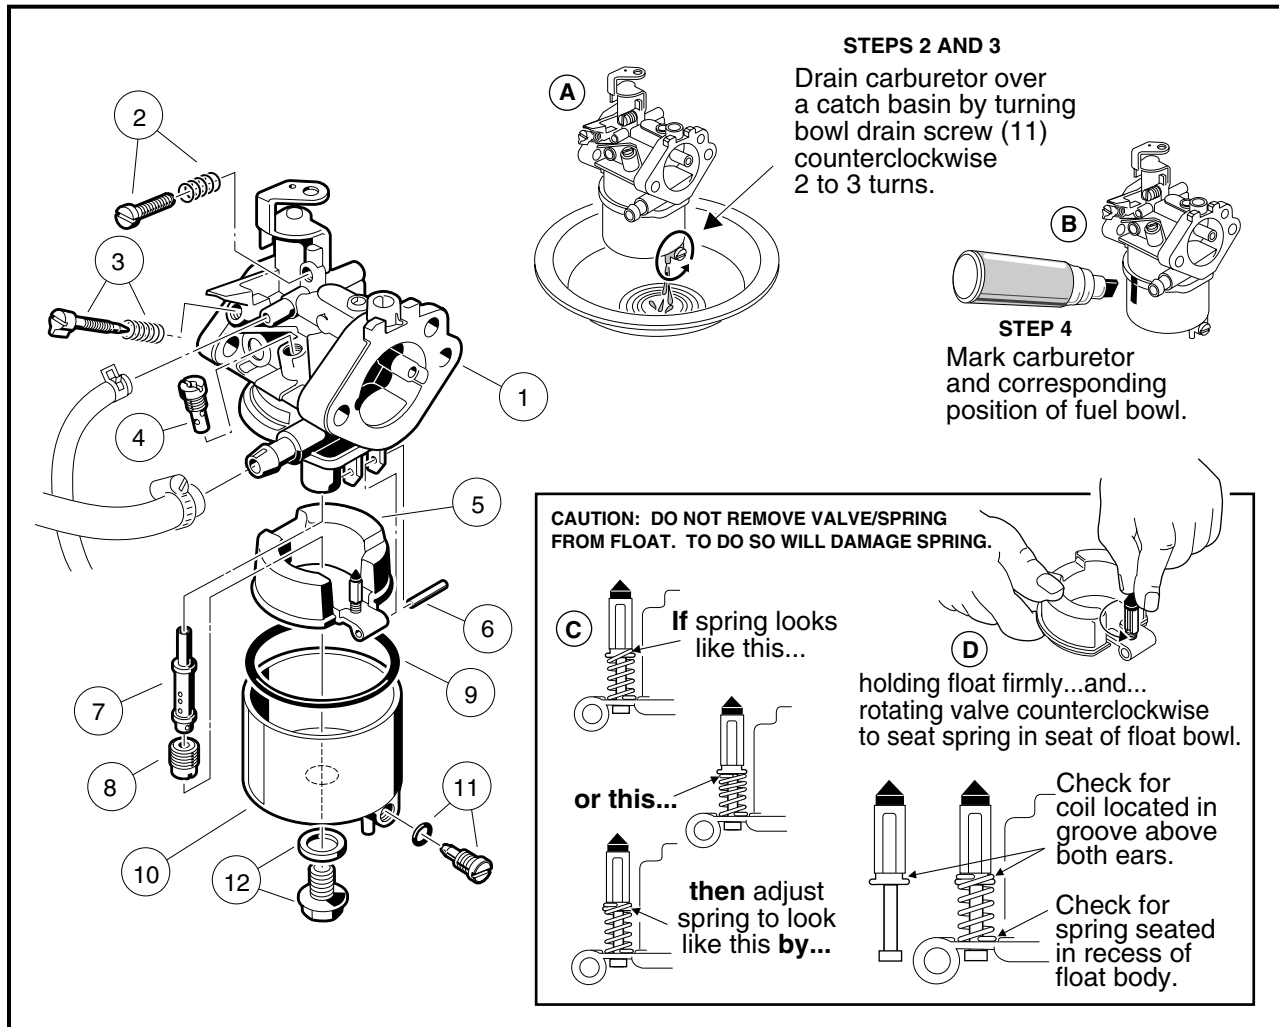

Figure 14-3 Changing the Main Jet
2. Position the carburetor with the drain screw (11) over a catch basin (**Figure 14-3, Page 14-5**).
5. Remove the carburetor fuel bowl retaining screw and washer (12) and fuel bowl (10) and clean it with a nonflammable solvent. **See following NOTE.**
**NOTE:** Make sure the fuel bowl gasket (9) remains properly seated in the carburetor body when the fuel bowl is removed.